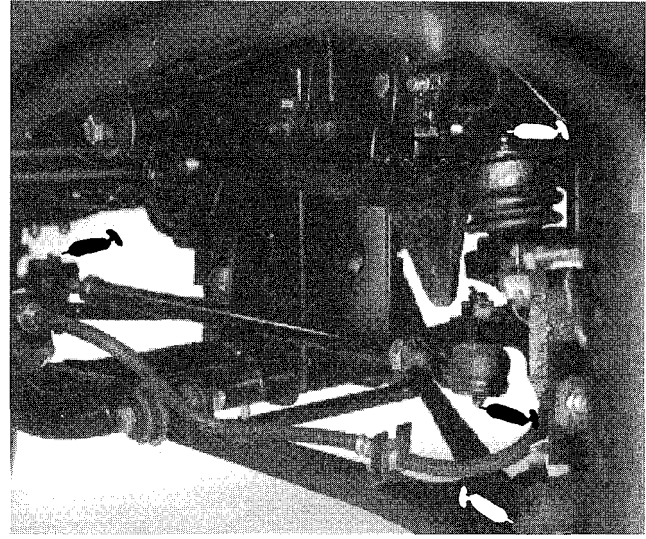
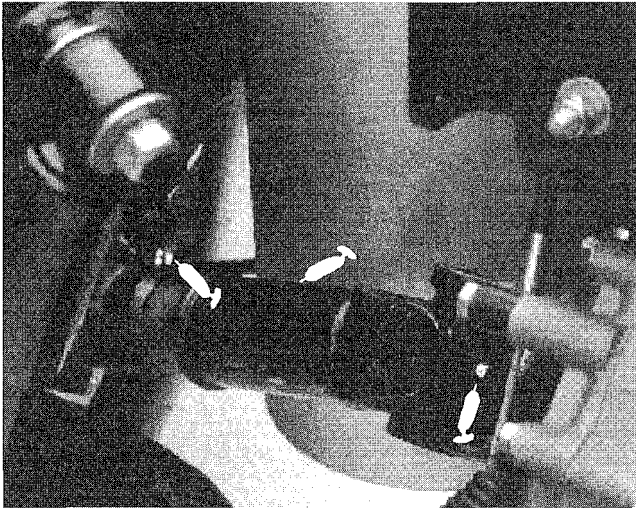

Figure 28
Figure 29
The grease fitting locations and quantities are: Tie rod ends (4) (Fig. 28), Front ball joints (4) (Fig. 28), Rear drive shafts (18) (Fig. 29) Front pivot bushings (2) (Fig. 30); Mid drive shaft - 4 wd only (3) (Fig. 31); Pedal Pivots (4) (Fig. 32); Steering shaft (1) (Fig. 33) and Accelerator Arm (1) (Fig. 34).